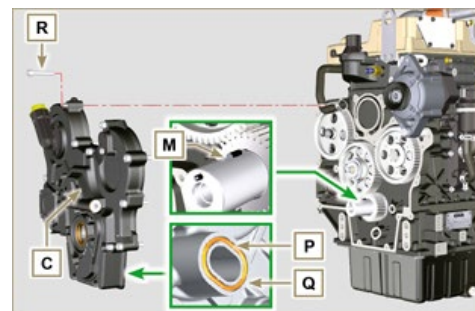

Fig 6.44
3. Make sure that the key **M** (**Fig. 6.44**) is inserted properly on the crankshaft and that it is facing upwards.